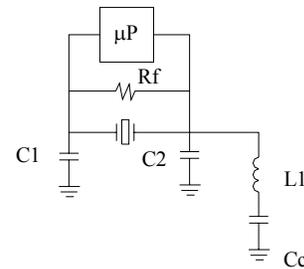

Figure 11
- The  $L_1C_c$  and  $C_2$  components form a *parallel resonant circuit* at a frequency about half-way between the fundamental and third-overtone frequency. This condition makes the circuit capacitive at the third-overtone frequency, which favors the oscillation at the desired overtone mode. See figure 11.